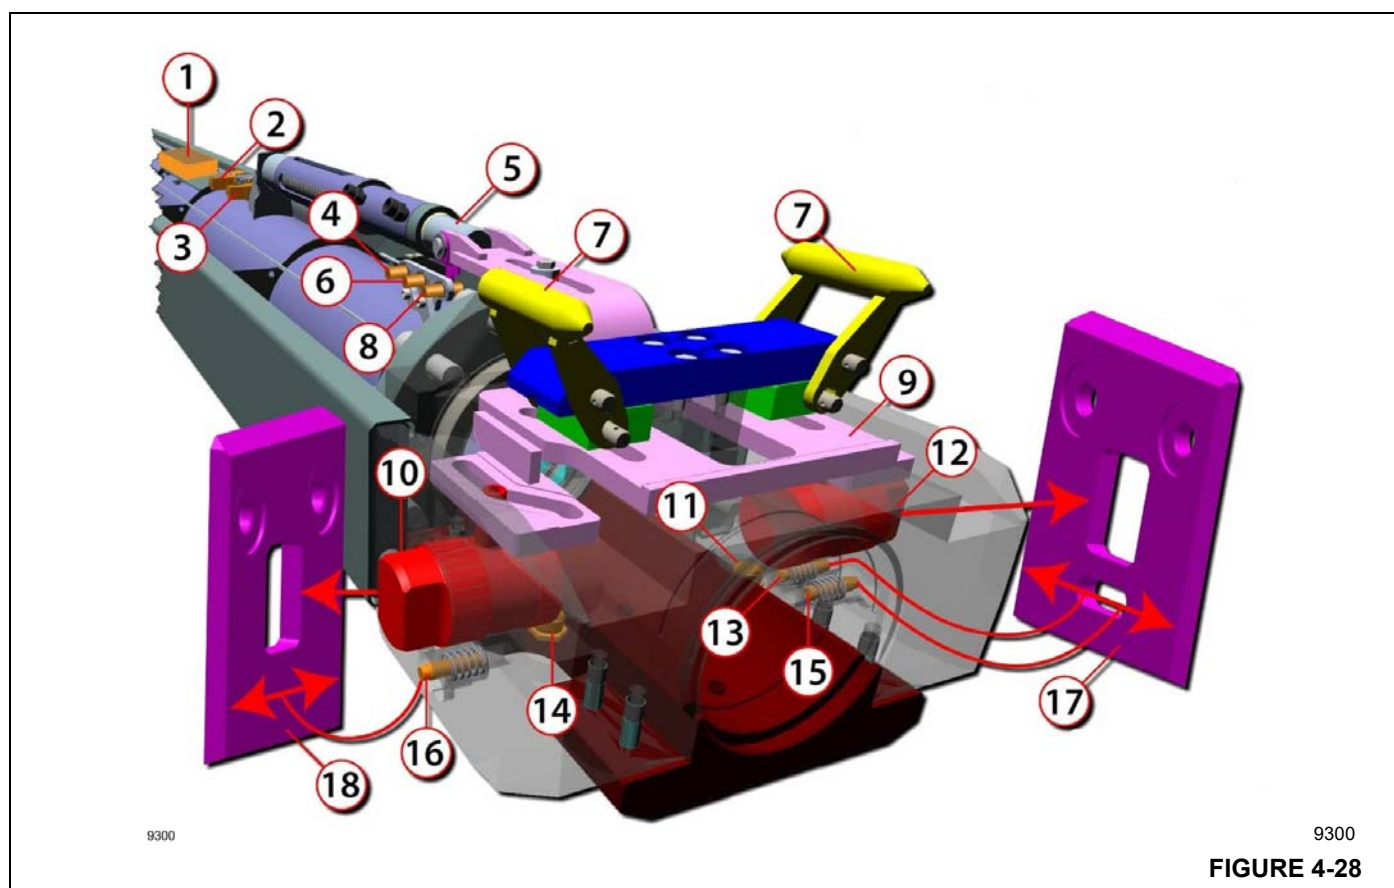

FIGURE 4-28
Figure 4-28 shows a layout for the Mechanical Locking Head design.
The sliding plate (9, Figure 4-28) has slots that guide the ends of small pins. The small pins are connected to components that can retract and release the pinned boom locking pins. The cylinder pins (10 and 12) are directly connected to the small pins, and when the sliding plate slides in the direction of telescoping cylinder extending, the cylinder pins are retracted. The section pins (not shown in Figure 4-28) are moved by the butterfly levers (7). The butterfly levers are moved as the sliding plate slides in the other direction (telescoping cylinder retracting direction).
There are 3 proximity switches for confirming the position of the hydraulic actuator (5, Figure 4-28). They detect a target plate that is attached to one of the pieces that move with the sliding plate. These switches are the following:
There are 3 proximity switches for confirming the position of the telescoping cylinder relative to a boom section. Two of these switches indicate the telescoping cylinder at a slot in a plate in the “foot area” of the boom section (13 and 15). Figure 4-29 shows these two switches, and that they are located on spring loaded cylindrical bodies that can ride in and out of slots in the boom sections. The third proximity switch is on the other side of the telescoping cylinder (16, Figure 4-28). As seen with the arrows for Items 17 and 18 in
Figure 4-28, when switches S2116N and S2117N are OFF, and switch S2118N is ON, then the telescoping cylinder can be considered aligned with a boom section. The telescoping cylinder would now be in position to connect to that boom section. The following provides identification of these proximity switches:
Item 5, Figure 4-28, indicates the hydraulic actuator for the pinning mechanism. This actuator is expected to move the sliding plate in either direction from its neutral position. The
There are two ON/OFF valves (2 and 3, Figure 4-28) that control where pressure for the actuator is directed. These valves are designated Y2130 and Y2131.